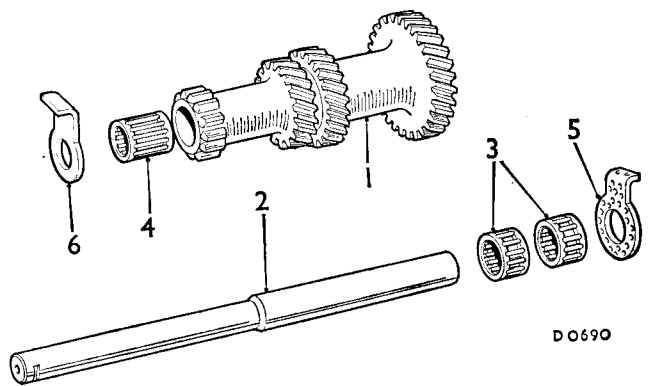

Fig. F.4
- (28) Refer to item (18). Drift the third motion shaft bearing into the central web using Service tool 18G 579 modified, together with the spacer washer.
- (29) Refit the laygear with the standard sized thrust washer at one end, and measure the gap at the other. Refer to the chart (Fig. F.4) to select the correct variable thrust washer, to give an end clearance of between .002 and .006 in. (.05 and .15 mm.). On three-speed synchromesh gearboxes the small thrust washer is of a standard size, the large one selective, and vice versa on four-speed synchromesh gearboxes.